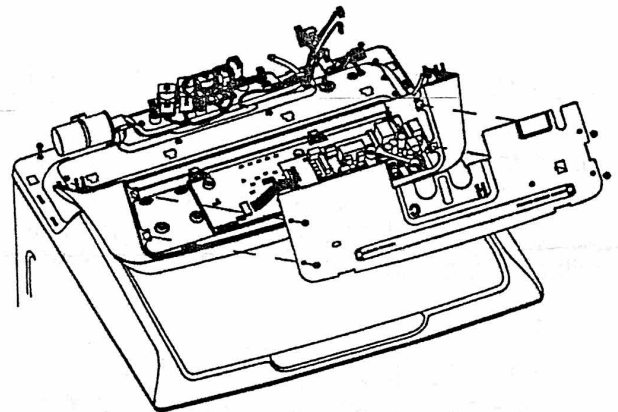

Figure 5
Step 9- Once the pressure tube is disengaged from the main board, rotate the backsplash toward the front of the washer. Depending on the model being serviced, remove the two hex head screws securing the backsplash to the top cover and then slide the rear panel to the right, or four hex head screws securing the rear panel to the backsplash. See figure 5. Disconnect the lid switch/lock harness from the main board and push through the top cover.